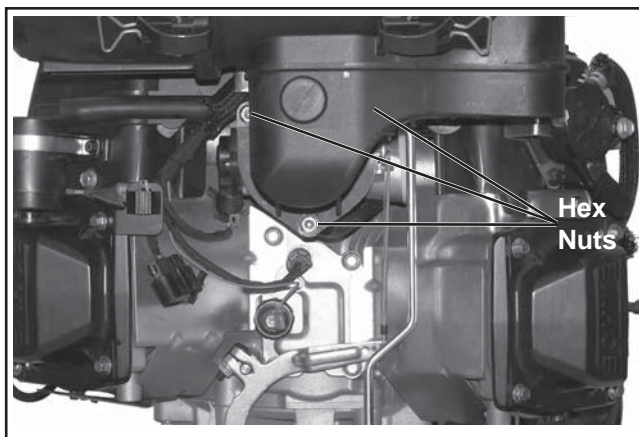

Figure 8-5. Remove Hex Nuts (one is hidden behind the elbow).
1. Remove the hex flange nuts securing the air cleaner to the mounting studs. See Figure 8-5.